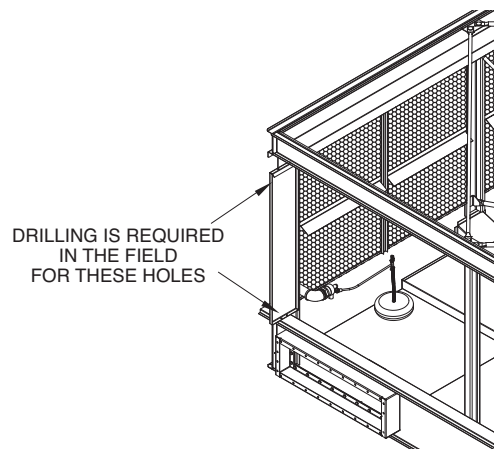

Figure 5 – Drip Channel and Vertical Splash Guard Installation
8. Remove the 1/4" bolts which hold the drip channel retaining clips to the end panel. Place the drip channel over the adjoining pan section flanges. Turn around the retaining clips and re-install them using the same hardware. (See Figure 5)
9. Place the vertical splash guard in the bend of the vertical supports. On galvanized units, attach the vertical splash guard using 5/16" self-tapping screws. On stainless steel units, attach the vertical splash guard using 5/16" stainless steel nuts and bolts. (See Figure 5)